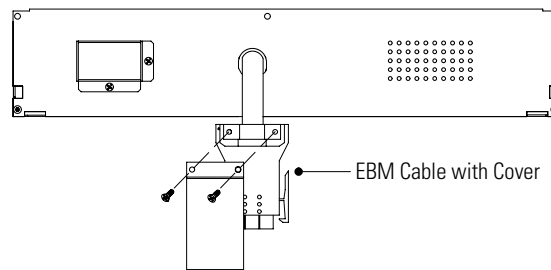

Figure 16. EBM Cable Cover (E/EH UPS Models Only)
5. Remove the cover from the EBM cable as shown in Figure 16.